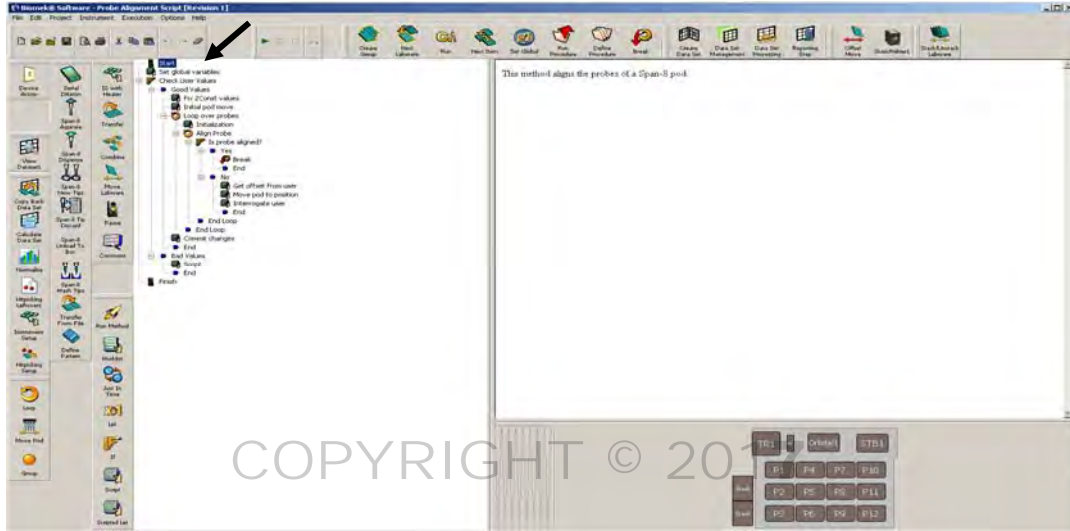

Figure 2. Initiating the Probe Alignment Script method.
- Initiate the method by clicking on the green arrow, shown in Figure 2.